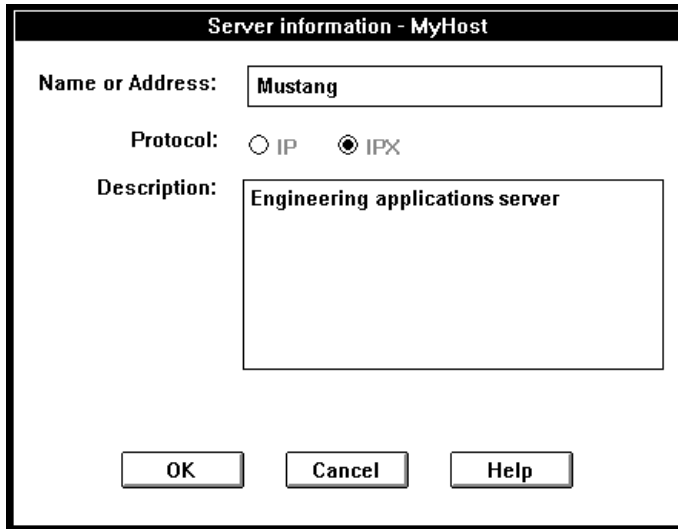

Figure 2-2. Server Information Dialog Box
- 2 Double-click a server icon in the Server View window. The Server Information dialog box appears, similar to Figure 2-2.